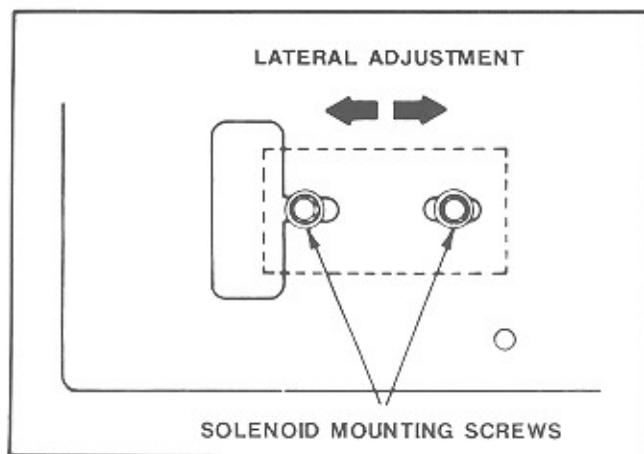

Figure 6-11. Lateral Adjustment
2. Loosen the solenoid mounting screws and with the roll pin against the plunger, position the solenoid so that there is a .015 to .025-inch gap between the sprag lever and the highest point on the sprag wheel (see figure 6-11).